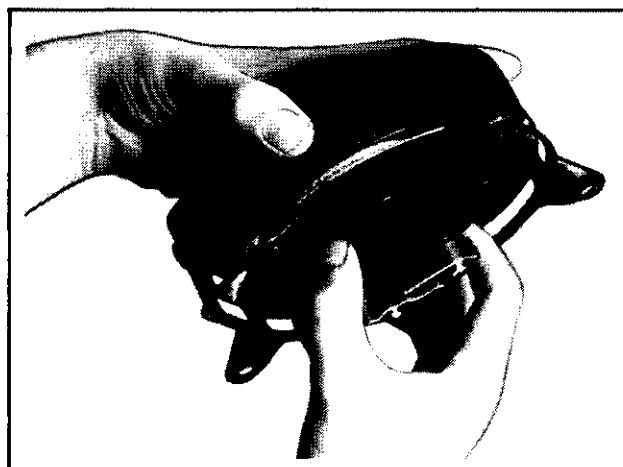

Figure 7-7. Removing Pulley From Housing.
9. Rotate the pulley slightly from side to side and **carefully** separate the pulley from the starter housing. Refer to Figure 7-7.